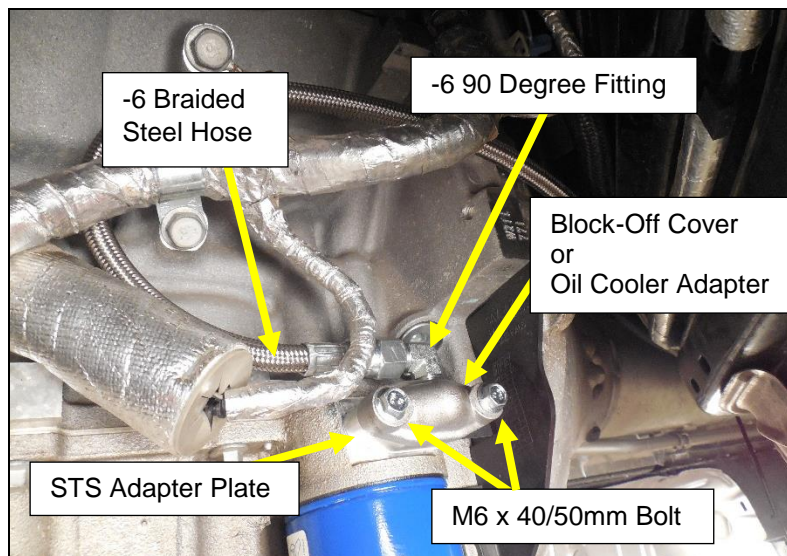

Figure 35
7. Locate the adapter plate at the oil filter housing. Cover the open end of the hose. Route the -6 steel braided line behind the shielded harness and back towards the rear of the car (**Figure 35**).